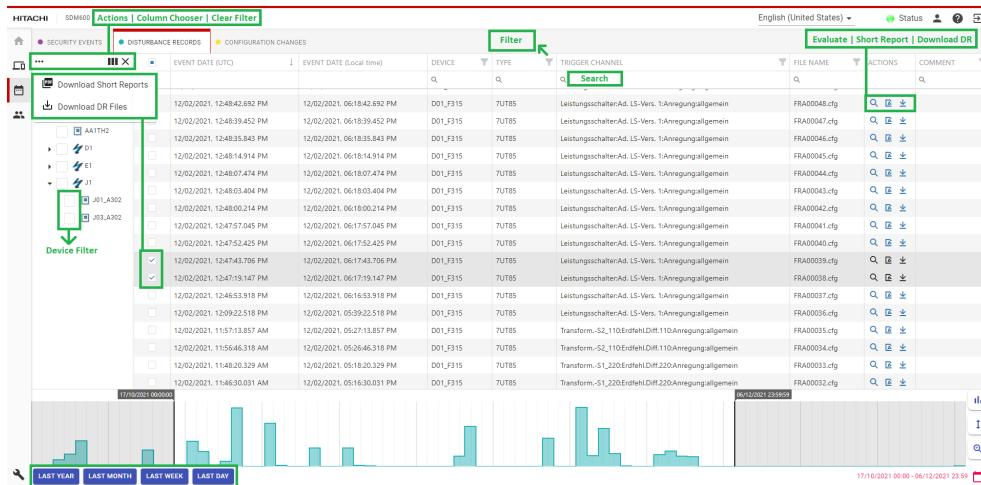

Figure 39: Disturbance Records
2. Column Chooser: This option allows the user to select the columns of the grid that are displayed, see Figure 39.